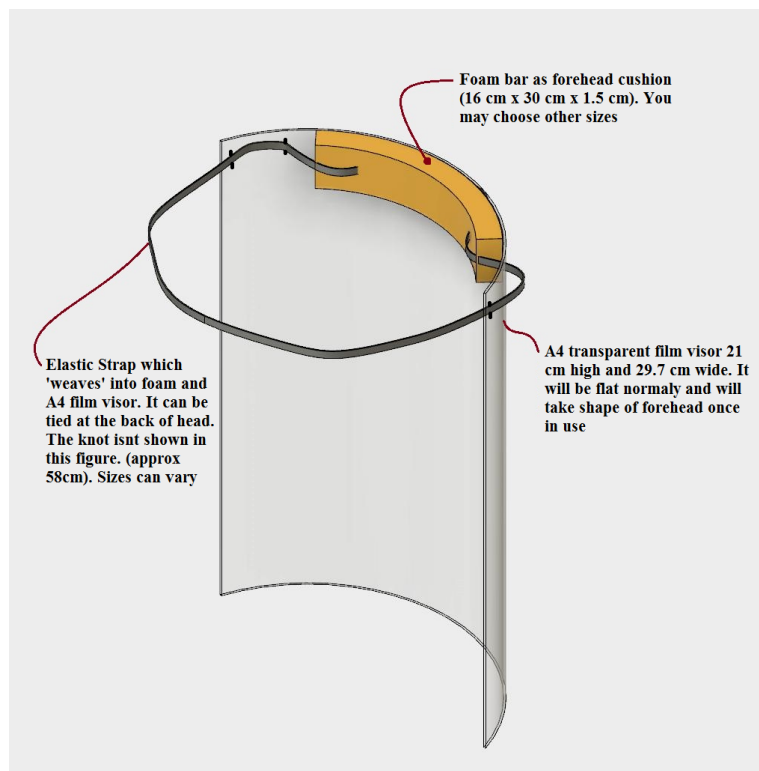

Figure 3 The basic face shield is ready for use.
Step 4 – The disposable face shield is now ready. As an option you may want to glue the foam to the A4 film to keep it firmly in position however it is unlikely to move unless the slits are too large. You may also want to cut the sharp corners to make them round. Since the film is very flexible its sharp corners do not pose any real hazard. The final product should be ready as shown in Figure 3 below. You may always improve the design with additional work. What we have given is a very basic model which you can build on if you wish. We recommend it as a single use PPE in case of severe shortage. While it is a far cry from the standard medical face shields, this will still be better than no face shield.